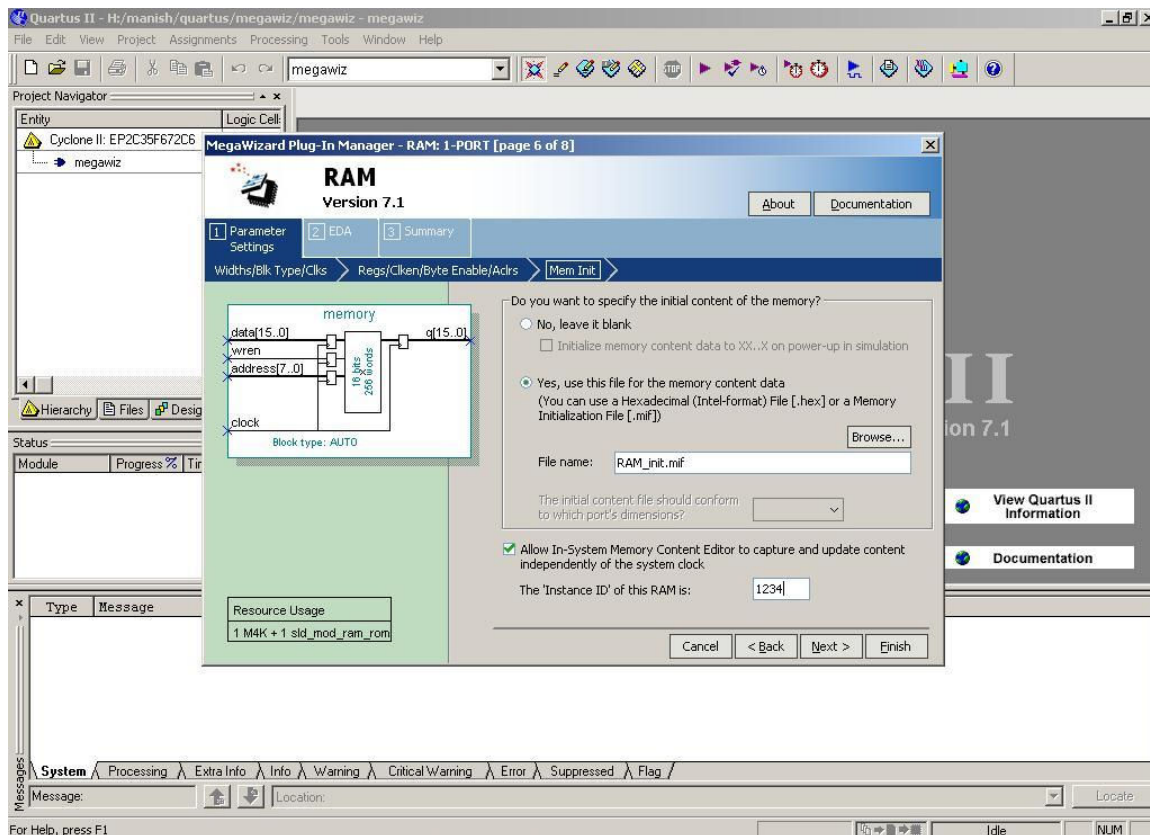

Fig. 5
- To place processor instructions into the memory, you need to specify *initial values* that should be stored in the memory once your circuit has been programmed into the FPGA chip. This can be done by telling the wizard to initialize the memory using the contents of a *memory initialization file (MIF)*. I have specified a file named *RAM_init.mif*, which then has to be saved in the directory that contains the Quartus II project. MIF format is available on course website. Write your MIF File as shown in that format. And click on “Yes, use this file for memory content data” and add your RAM_init.mif file as shown in Fig. 5. Then click Next.